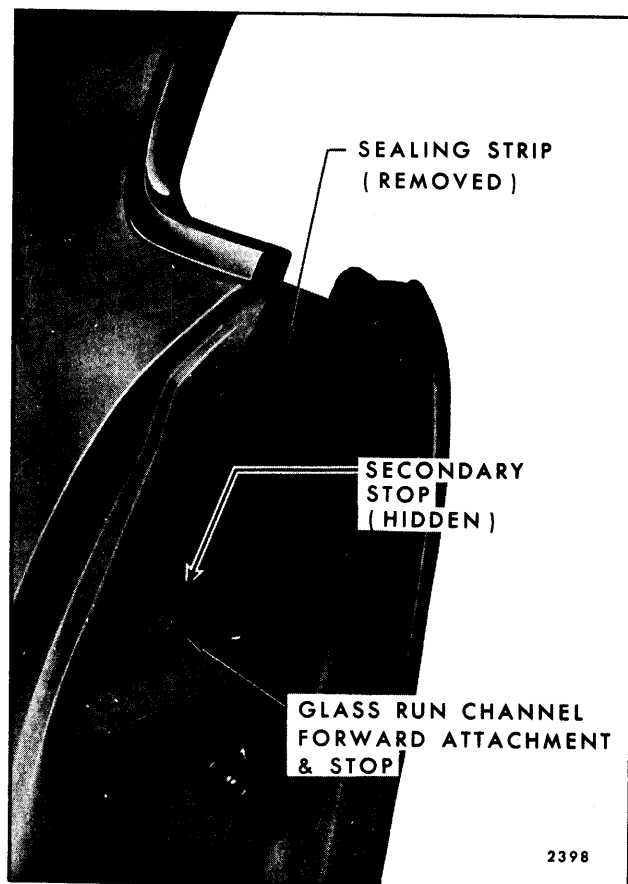

Fig. 7-51—Rear Quarter Window Hardware Attachments on Lock Pillar
2. Remove lock pillar grille (see Fig. 7-51).